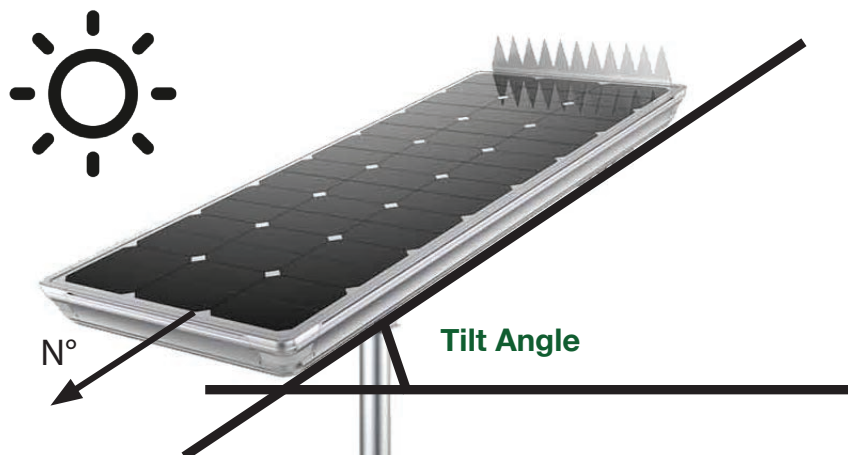

Fig. 2.1b
4. Securely fasten the included grub screws to the bracket. Tighten the locking bolts to prevent the grub screws from loosening. (Fig. 2.1b)